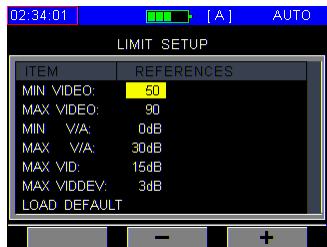

Figure 2-12-9
4. When editing LIMIT test parameters, you can check and modify current limit parameters, and then save and exit. Refer to figure 2-12-9.